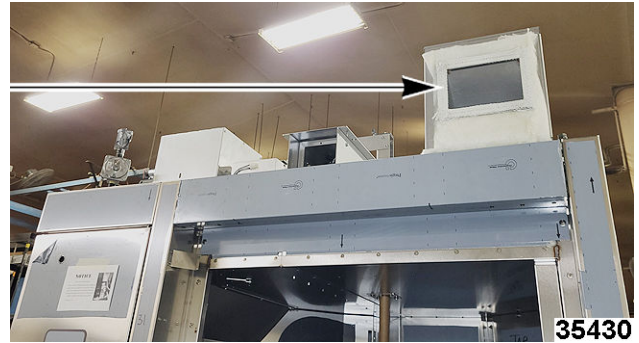

Fig. 113
- D. Apply high temp red silicone around face of overpressure duct (Fig. 113).